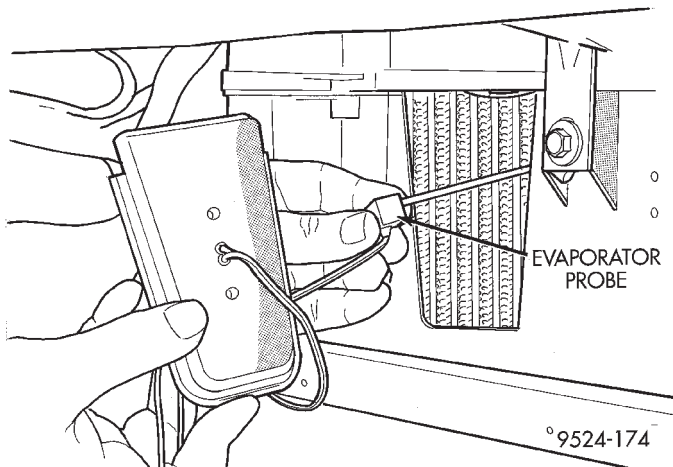

Fig. 26 Evaporator Probe
- (4) Remove evaporator probe from evaporator (Fig. 26).